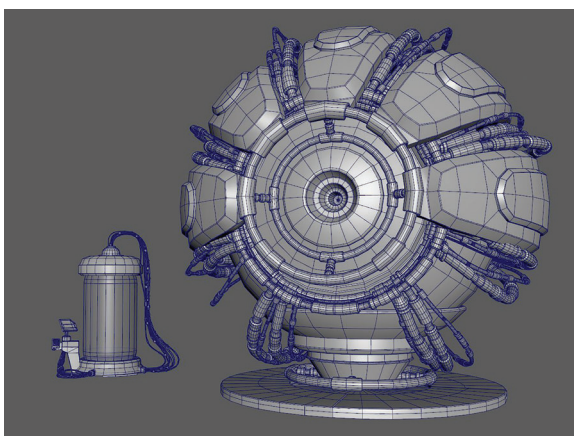

FIGURE 1.66 Hero assets.
Step 14: Hero assets. Hero assets are the assets that we only use a few times and so might need a bit of extra care and detail. We will create two hero assets for the final scene; the creation process of these hero assets is tedious, expect to spend a lot of time on them and have a higher polycount on these assets. But even though the fidelity might be higher for these assets, the tools and commands used to create them are no more than what we have covered (Figure 1.66).